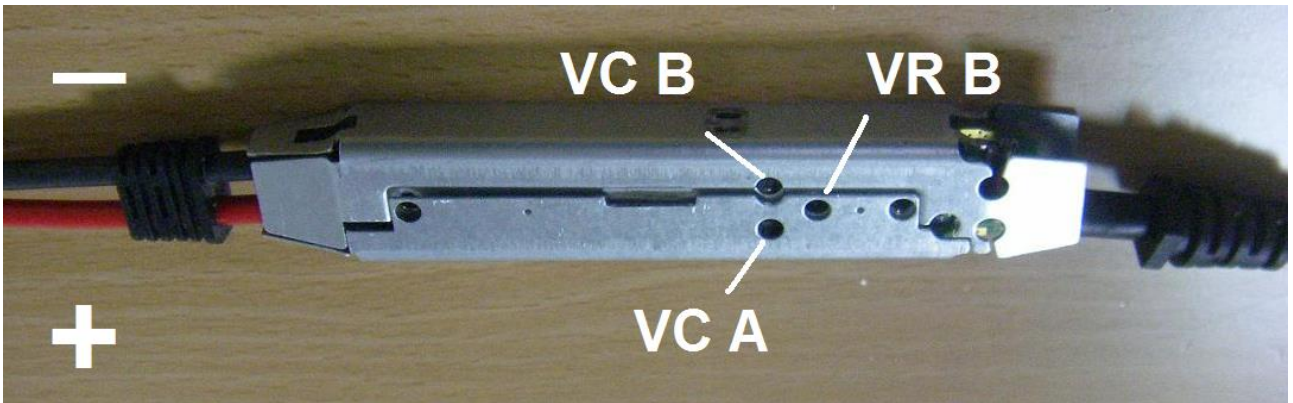

Fig.1a.
- A-2. Loosen the four screws on the plastic cases. referring to Fig.1a.